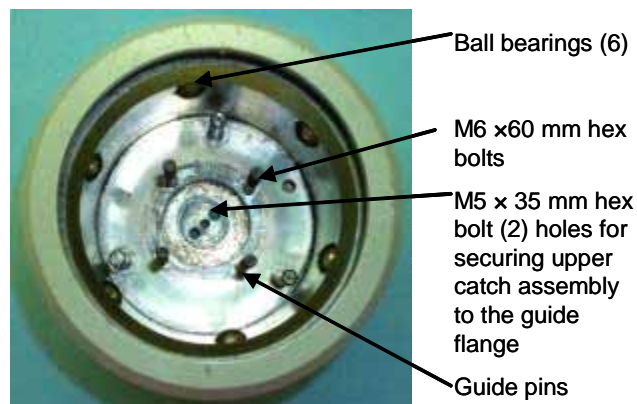

Figure 74. Outer shell, top down, with interior components exposed.
5. After the cover is installed, turn the assembly over so the top rests on the workbench (figure 74).